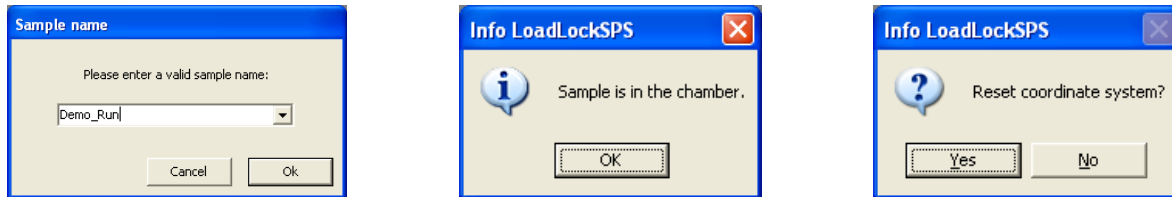

Figure 10 Pop-ups immediately after the sample loading process
8. After the loading process has completed, a number of pop-ups will prompt the user for action as shown in Fig. 10. Enter a **sample name** of your choice, press **OK**, press **OK**, and press **Yes**.